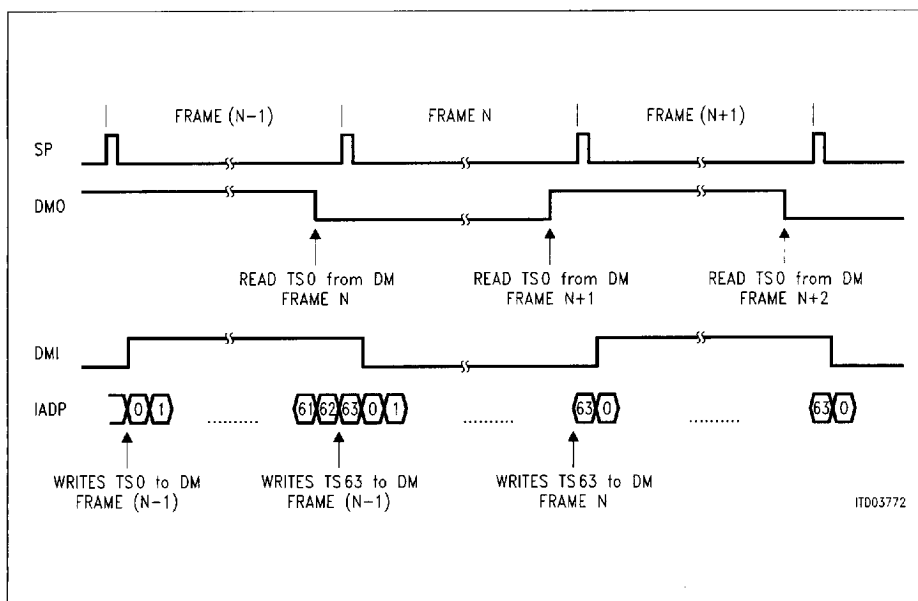

Figure 6
For outputting, the connection memory (CM) is read in sequence. Each location in the CM points to a location in the data memory. The byte in this data memory location is transferred into the current output time-slot. The read access to the CM is controlled by an output counter. An additional bit (D12) in each location of the CM controls the access to the data memories DM0 and DM1. Three address pointers – two switching aligned to the input frame (DMI, IADP), one switching aligned to the output frame (DMO) – are working in conjunction with D12 implementing the constant/minimal delay function (see **figure 6**).